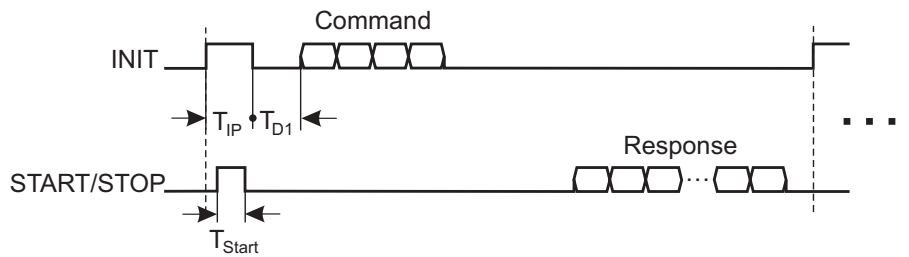

Fig. 7-1: Principle of data transmission with IP data protocol
If the length of the INIT pulse  $T_{IP}$  is increased to approx. 15  $\mu s$ , the transducer switches from DPI measurement mode (→ Fig. 7-1).
- $T_{IP}$  approx. 15  $\mu s$  operation with IP data protocol (→ Fig. 7-1)